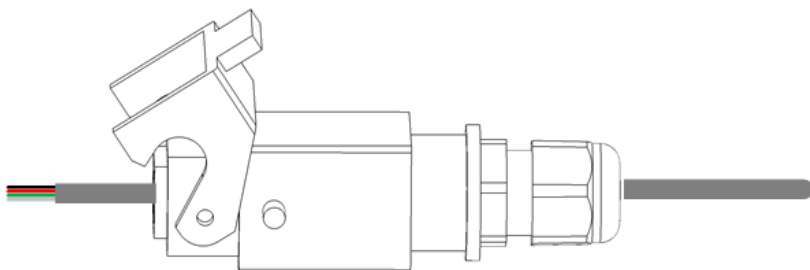

Figure 6: Threading the Cable
4. Place the cable through the protective cover (Figure 6).